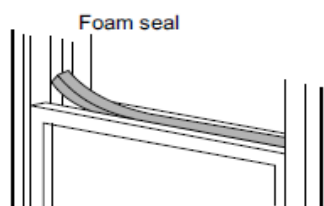

Fig. 13
5. Cut the foam seal to the length and seal the open gap between the top window sash and outer window sash. Shown in Fig. 13.